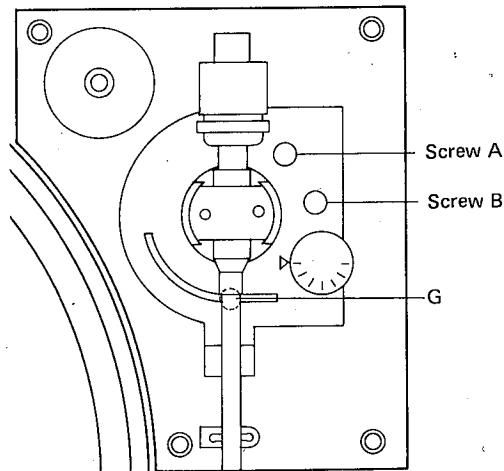

Figure 7
To adjust the height of the stylus tip when using the cueing facility, turn the adjusting screw (G) clockwise or counter-clockwise to adjust the distance between the stylus tip and face of a record disc on the Turntable to be 6 mm. (Figure 7)
5. Automatic Mechanism Adjustment (Figure 7)